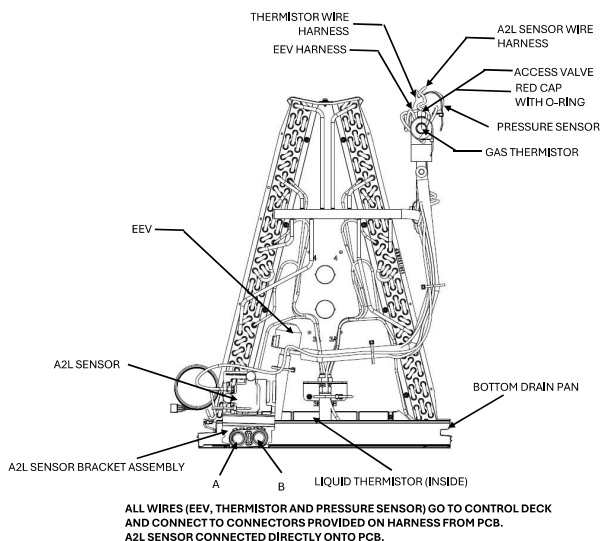

Figure 12
Condensate drain connections are located in the drain pan at the bottom of the coil/enclosure assembly see Figure 12. Use the female ($\frac{3}{4}$ "FPT) threaded fitting that protrudes outside of the enclosure for external connections. The connectors required are $\frac{3}{4}$ " NPT male, either PVC or metal pipe and must be hand tightened to a torque of no more than 37 in-lbs, to prevent damage to the drain pan connection. An insertion depth between .36 to .49 inches (3-5 turns) should be expected at this torque.
Drain port labeled (A) in Figure 12 is the primary drain and condensate drain line must be attached to this drain port.